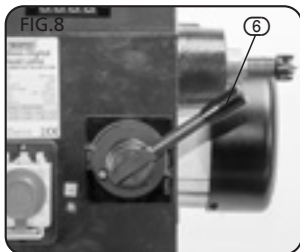

FIG.8
9.2 CHANGING SPEED - FIG. 8
In both ends of the piece of wood drill a 1.5mm hole, 7mm deep into the centre. Now secure the workpiece in a soft jaw vice. Put the point of the drive spur into the drilled hole and tap the spur in securely (Fig.8).